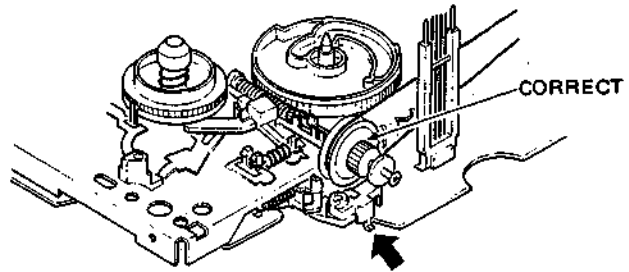

Fig. 1-1-7
2. Refer to Fig. 1-1-7 and confirm that the clutch is engaged.